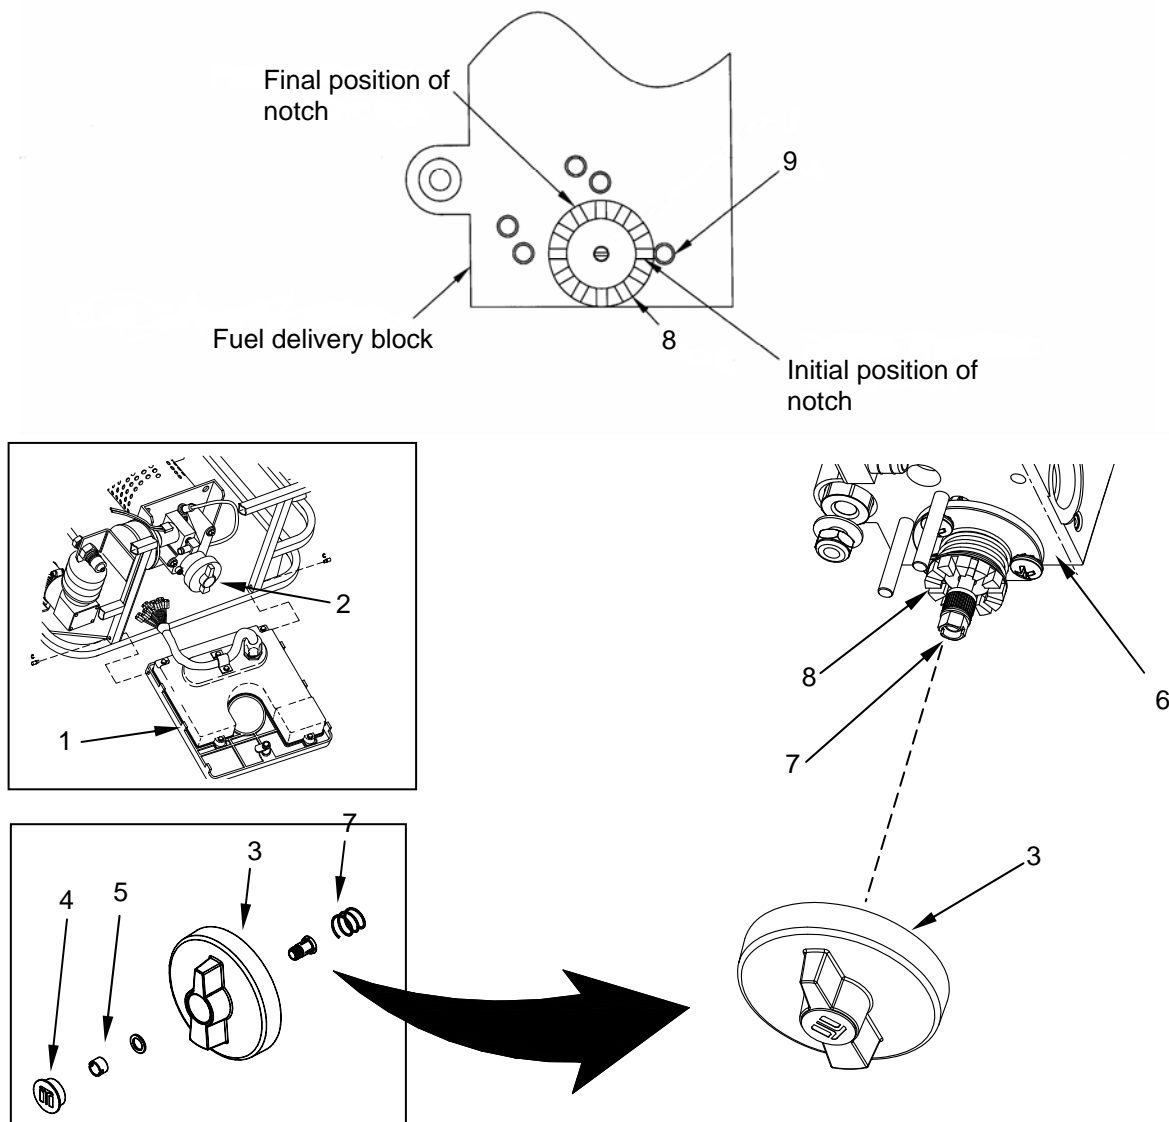

Figure 6. Adjust the Flame Control on the MBU-V3.
2. Open control panel (Figure 6, Item 1) to gain access to the fuel delivery block assembly (Figure 6, Item 2).
3. Remove the control knob (Figure 6, Item 3), by removing the cap (Figure 6, Item 4), and loosening the retaining nut (Figure 6, Item 5) **ONLY** enough to release the knob from the fuel delivery block (Figure 6, Item 6). Do not disassemble the knob components.
4. Remove the control knob (Figure 6, Item 3) taking care not to drop the spring (Figure 6, Item 7) located behind the knob.
5. Using your fingers, turn the brass castle nut (Figure 6, Item 8) clockwise until it stops.
6. Locate the steel ball (Figure 6, Item 9) embedded in the fuel delivery block body at the 3 o'clock position.
When finished, the marked notch will be the first notch to the left of the notch in the 12 o'clock position, as shown in Figure 6.
8. Rotate the castle nut (Figure 6, Item 8) counterclockwise and count four notches.
9. Hold in the control knob (Figure 6, Item 3) with the pointer in the 3 o'clock position. The tabs on the back of the control knob will align with the notches at the 6 and 12 o'clock positions on the castle nut.
11. Tighten the control-knob retaining nut (Figure 6, Item 5).
12. Set the burner to high by rotating the control knob (Figure 6, Item 3) counterclockwise until it stops.